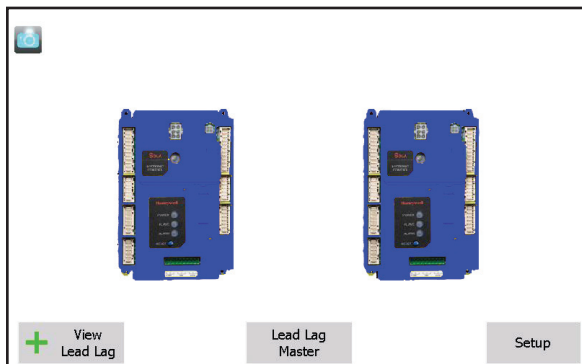

Fig. 59 – 'home' screen
1. From the 'home' screen (Fig. 59), press the icon for the controller you want to work with. In this example, we will start with the Secondary controller for Boiler 1, and make sure this is not set up as a Master.